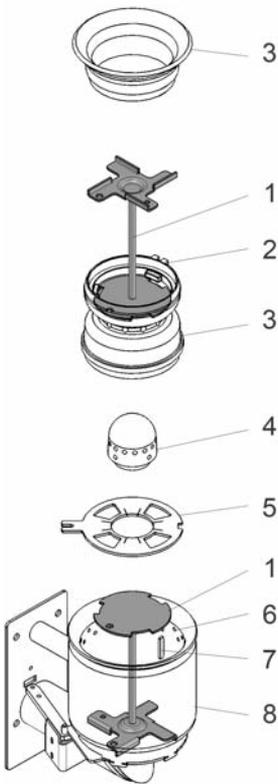
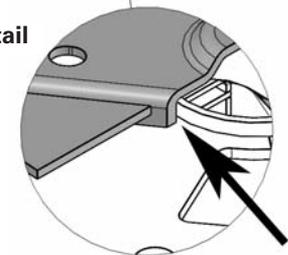

Fig. 120 BioWIN 100
Fig.122 BioWIN 210/260
- Lift out the cone (3) using the cleaning tool (1) – Fig. 120, 121, 122.
- Use the spatula to scrape off the deposits from all sides of the cone (3), however in particular on the underside.
- Vacuum out the burner pot, remove the primary air pin (4) and carefully clean the holes with a small screwdriver or drill bit if necessary (holes must be clear).
- Raise the grate plate (5) from below through the base of the burner pot and remove it. Use the spatula to scrape ash residues off the grate plate (5) and the hole in the middle.
- Turn the cleaning tool (1) to scrape off combustion residues in the base of the burner pot – Figs. 120, 121, 122. The pipe for the primary air pin serves as a guide for the cleaning tool – see detail in Fig. 122. Use the spatula to scrape out the edges in the base of the burner pot until they are clean. All secondary air holes (6) in the burner pot must be clear, clean them with a small screwdriver or drill bit if necessary.
- Insert the primary air pin (4) (Groove must engage in anti-twist device).
- Place the cone (3) into the burner pot using the cleaning tool (1). The guide groove (2) of the cone must engage in the lock (7) – Figs. 120, 121, 122.